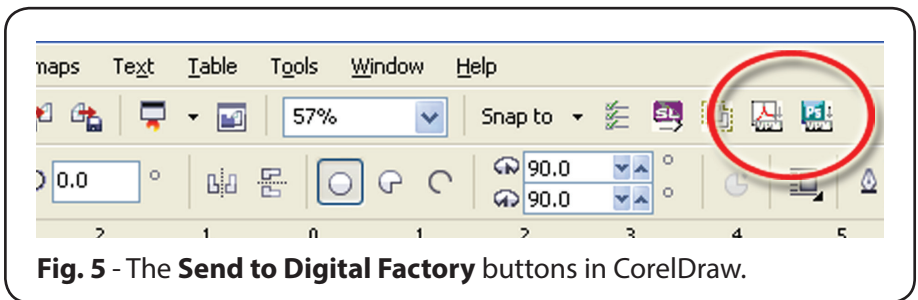

Fig. 5 - The Send to Digital Factory buttons in CorelDraw.
4. From the **Standard toolbar** (Fig. 5), click the **Send to Digital Factory** button.